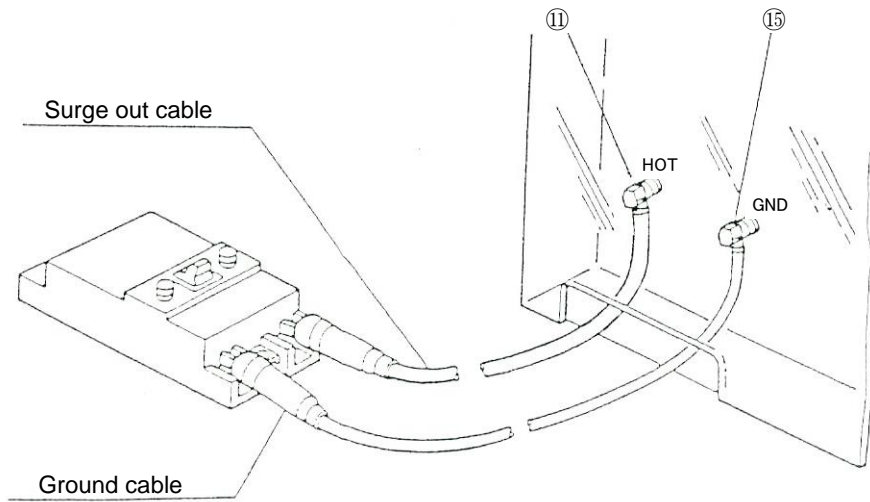

Fig. 5
3. Connect the sample to simulator via the H^{OT} terminal ⑪ and via the GND terminal ⑮ through the supplied Surge output cable and Ground cable, respectively, as shown in Fig. 5.